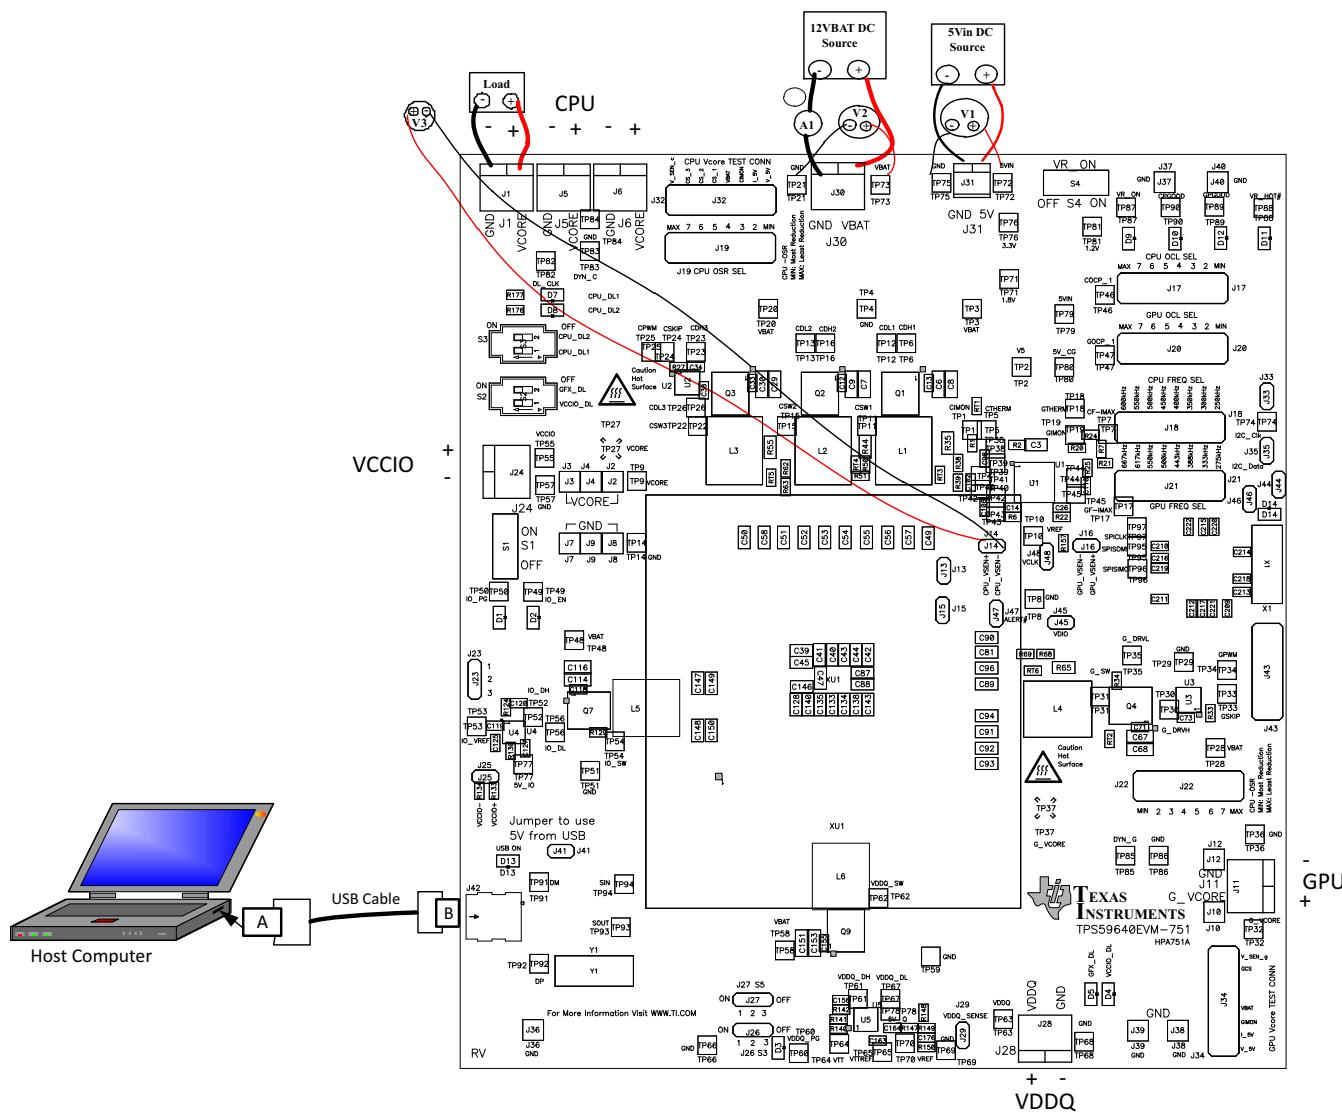

Figure 17. TPS59640EVM-751 Recommended Test Setup
12VBAT DC Source: The 12VBAT DC source must be a 0-V to 20-V variable DC source capable of supplying a 20-Adc current. Connect 12VBAT to J30 as shown in Figure 17.
5Vin DC Source: The 5Vin DC source must be a 0-V to 5-V variable DC source capable of supplying a 1-Adc current. Connect 5Vin to J31 as shown in Figure 17.
Figure 17 is the recommended test setup to evaluate the TPS59640EVM-751. Working at an ESD workstation, ensure that any wrist straps, bootstraps, or mats are connected referencing the user to earth ground before handling the EVM.
- Prior to connecting the 5Vin DC source, it is advisable to limit the source current from 5 Vin to 1 A maximum. Make sure that 5Vin is initially set to 0 V and connected as shown in Figure 17.
- Prior to connecting the 12VBAT DC source, it is advisable to limit the source current from 12VBAT to 10 A maximum. Make sure that 12VBAT is initially set to 0 V and connected as shown in Figure 17.
- Connect voltmeters V1 at TP72 (5Vin) and TP75 (GND) to measure 5Vin voltage, V2 at TP73 (12 VBAT), and TP21 (GND) to measure 12VBAT voltage as shown in Figure 17.